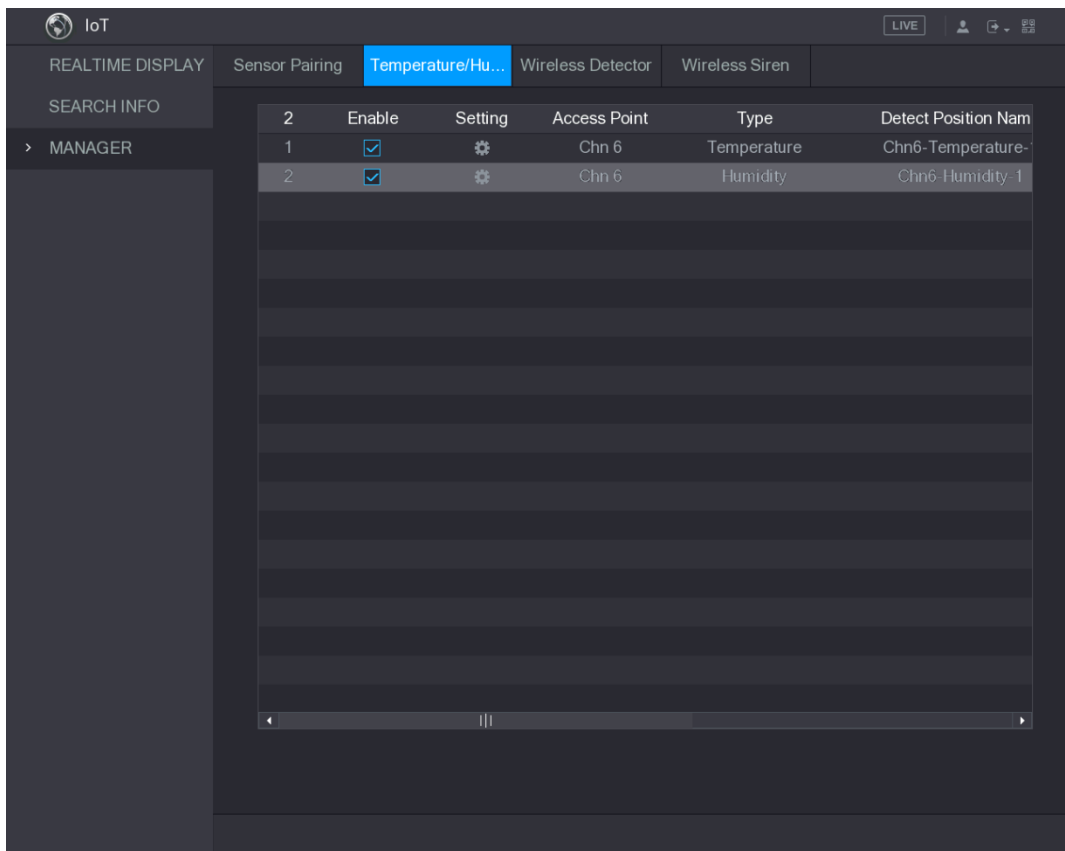

Figure 5-202
Step 2 Select the **Enable** check boxes to enable IoT function. See Figure 5-202.